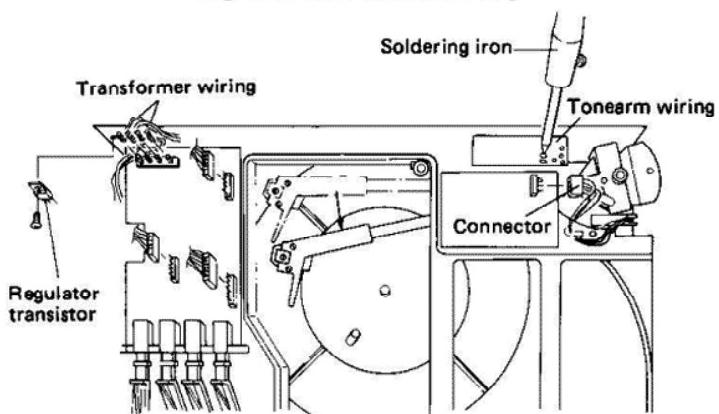

Fig. 5-4 Escutcheon Cover Removal
- The transformer wiring, the tonearm wiring, and the connector leads are located behind the escutcheon cover. Remove the transformer wiring wrapping, disconnect the tonearm wiring solder, and then disconnect the connectors. Finally, undo the regulator transistor screw (Fig. 5-4).